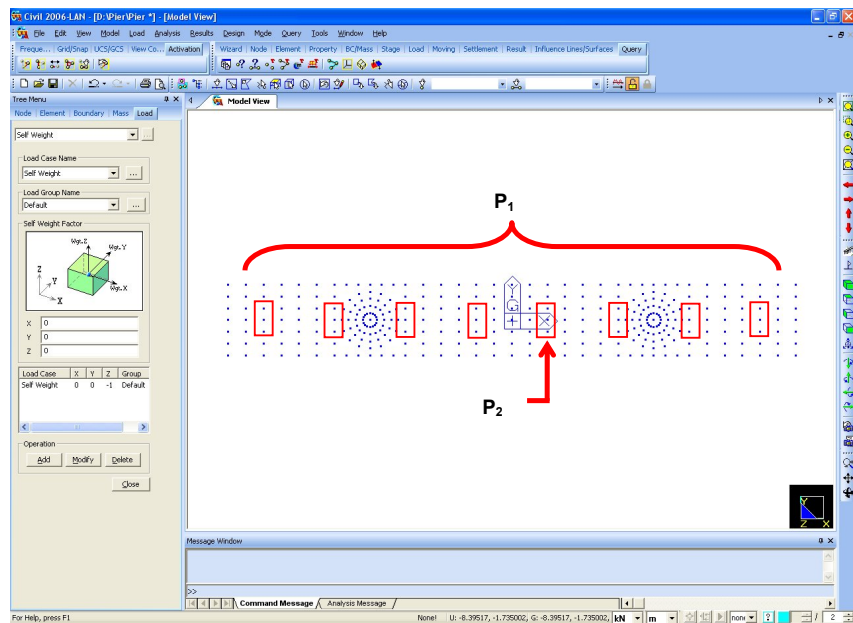

Figure 5.20 Loading Locations
Select and activate only the nodes at the top of the structure to specify the vertical loads applied to the top (Fig.5.20).
The locations of the vertical and seismic loads are shown in Fig. 5.20.
1. Click  **Select Window** to select the parts loaded with  $P_1$  (Fig.5.20).
8. Click  **Select Window** to select the parts loaded with  $P_2$  (Fig.5.20).